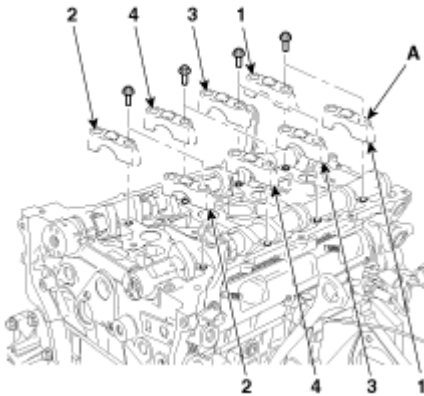

Fig. 10: Identifying Removal Sequence Of Camshaft Bearing Cap
- C. Remove camshaft bearing cap (A), in the sequence shown in **Fig. 10**.